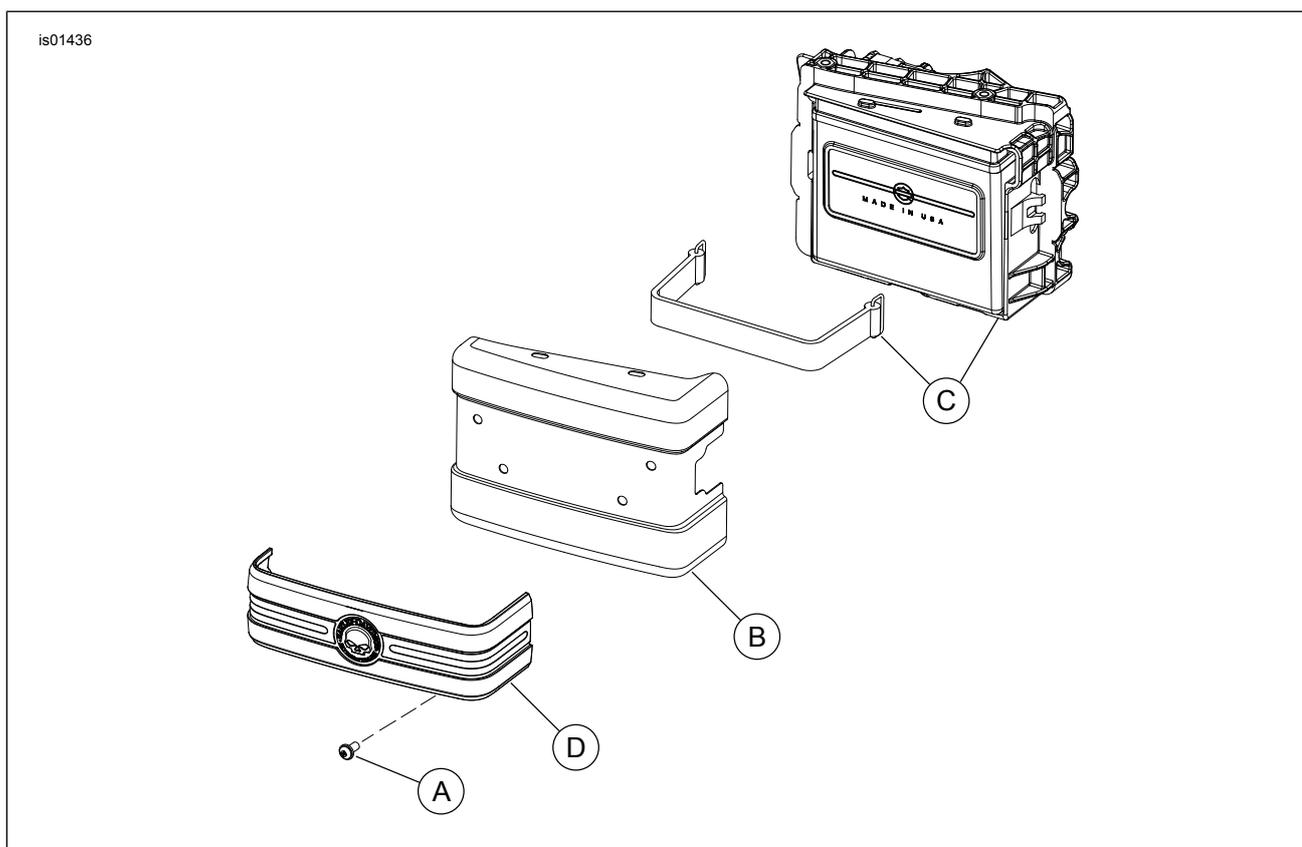
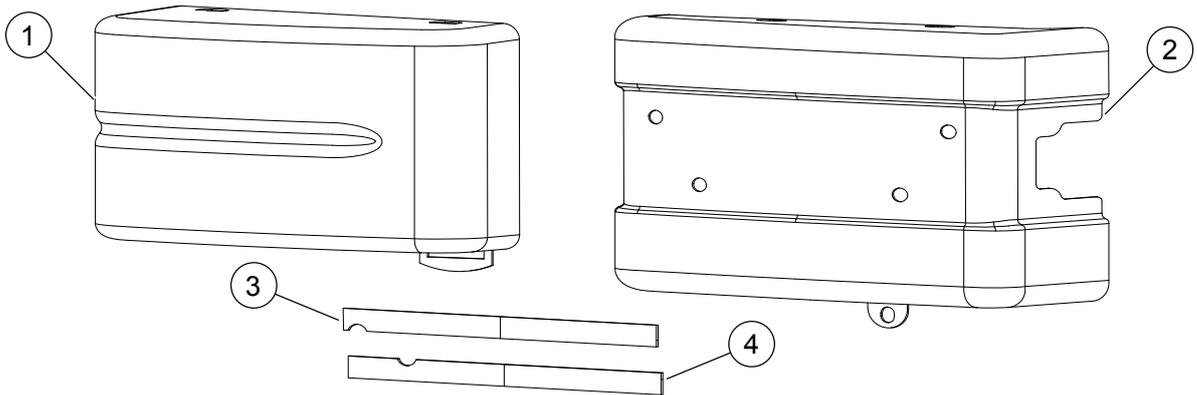

Figure 3. Service Parts: Original Equipment Battery Cover Trim
Figure 5. Electrical Caddy and Caddy Cover
See Figure 5
1. See Figure 3. Remove button-head screw (A) that attaches battery cover (B) to battery tray (C).
1. See Figure 3. Place new battery cover (2) Figure 5 over the two tabs on battery tray (C) and attach it to battery tray with button-head screw (A). Tighten screw to 20-40 **in-lbs** (2.3-4.6 Nm).
2. See Figure 3. Obtain battery cover trim (D). If OE was retained with tabs, snap onto battery cover. If trim was retained with tape remove tape from trim and continue to step 3.
4. See Figure 5. Retrieve the tape (items (3 and 4) from kit, remove adhesive liner from one side of tape and attach to trim piece. Remove adhesive liner from one side of tape and proceed to step 5.
2. Install new cover item 1, Figure 5, by inserting bottom tab of electrical caddy into cover and push cover onto caddy.